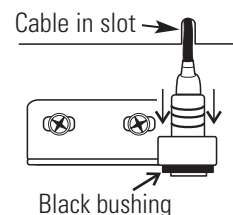

Figure 5-6. Connector
13. The shoulder of the white bushing must be on top as shown in Illustration B. Install the black plastic bushing into the hinge just removed. See Figure 5-6.
22. Match the pins on the yellow connector with the socket on the door. Press the connector completely into the socket and slide the strain relief down until no yellow is visible on the plug (Figure 5-6).
23. Slide the electronics drawer back in, being very careful to place the door heater cable back into the provided slot so that the drawer does not pinch the cable (Figure 5-6). Secure the electronics drawer with the screws removed above.